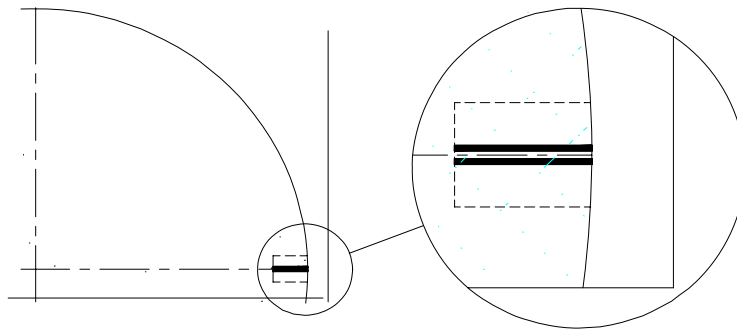

Figure 2 - Cross Line Alignment
1.8.4.1 Align the cross line on the screen to the zero datum cursor at the edge of the screen (Fig.2), making sure that the cross line is set equidistant between the two cursor lines which have been pre-set during manufacture. Zero the display by pressing the RESET button.
1.8.5.1 Switch off power supply to "angle display" by separate "protractor" switch if fitted, or mains switch. Wait two minutes, during which set the cross lines very precisely to the zero datum cursor (Fig.2).